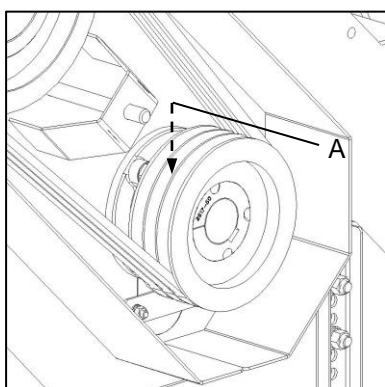
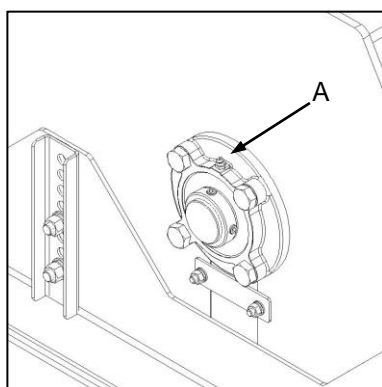
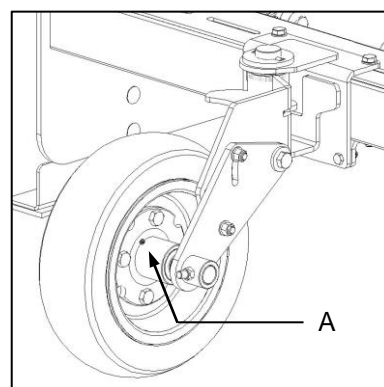

Fig. 1
Fig. 2
Fig. 3
- ✔ Lubricate rotating and sliding components. This includes rotor bearings (Fig. 1-A / Fig. 2-A) and wheel bearings (Fig. 3-A).
- ✔ Ghries draaiende en skuivende komponente. Dit sluit rotorkoeëllaers (Fig. 1-A / Fig. 2-A) en wielkoeëllaers in (Fig. 3-A).